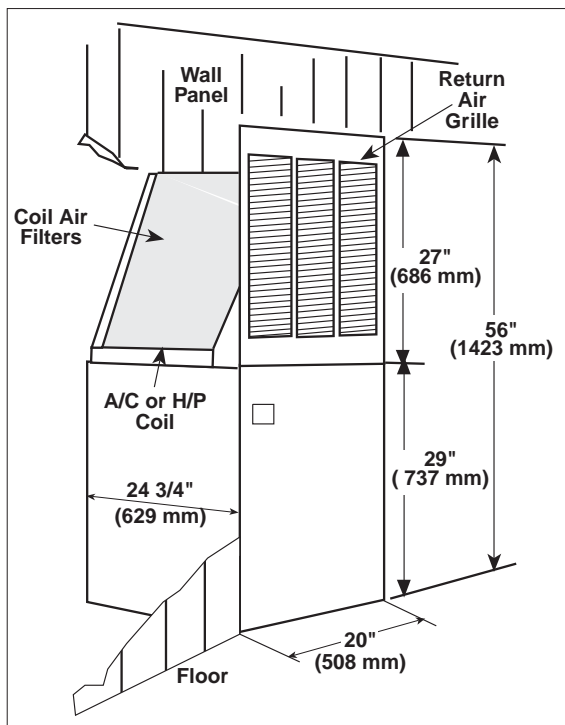

Figure 12. Typical Alcove Installation
1. Cut alcove rough openings to minimum dimensions shown in Figure 12.